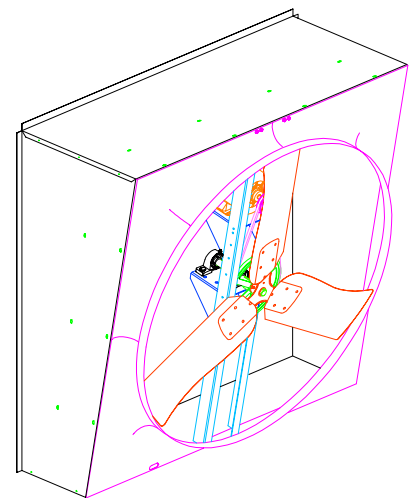

Figure 3
- 4) Firmly grasp the motor struts and pull the orifice panel forward in the housing until the holes in the orifice panel line up with the second set of holes in the housing. **See Figure 3.** Using the 1/4 x 1" TEK screws removed in Step 3, reattach the orifice panel to the housing.